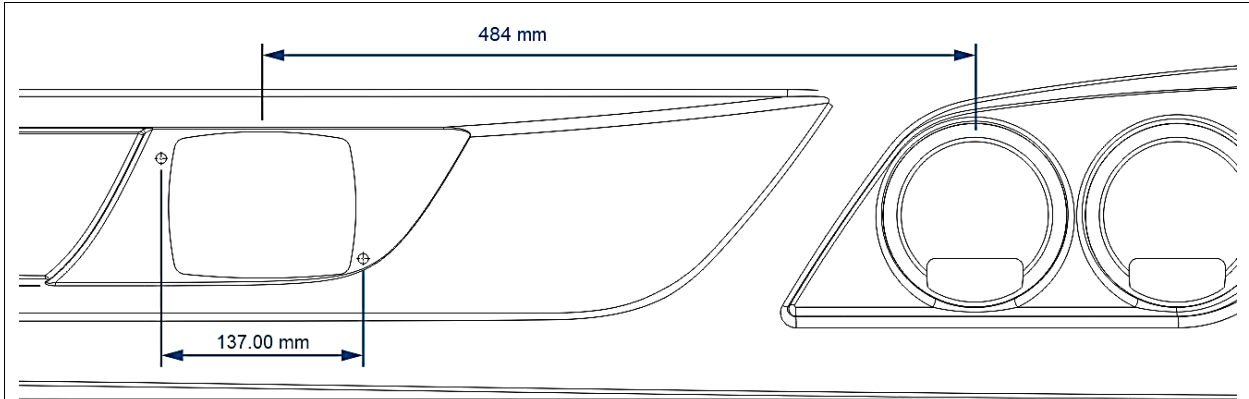
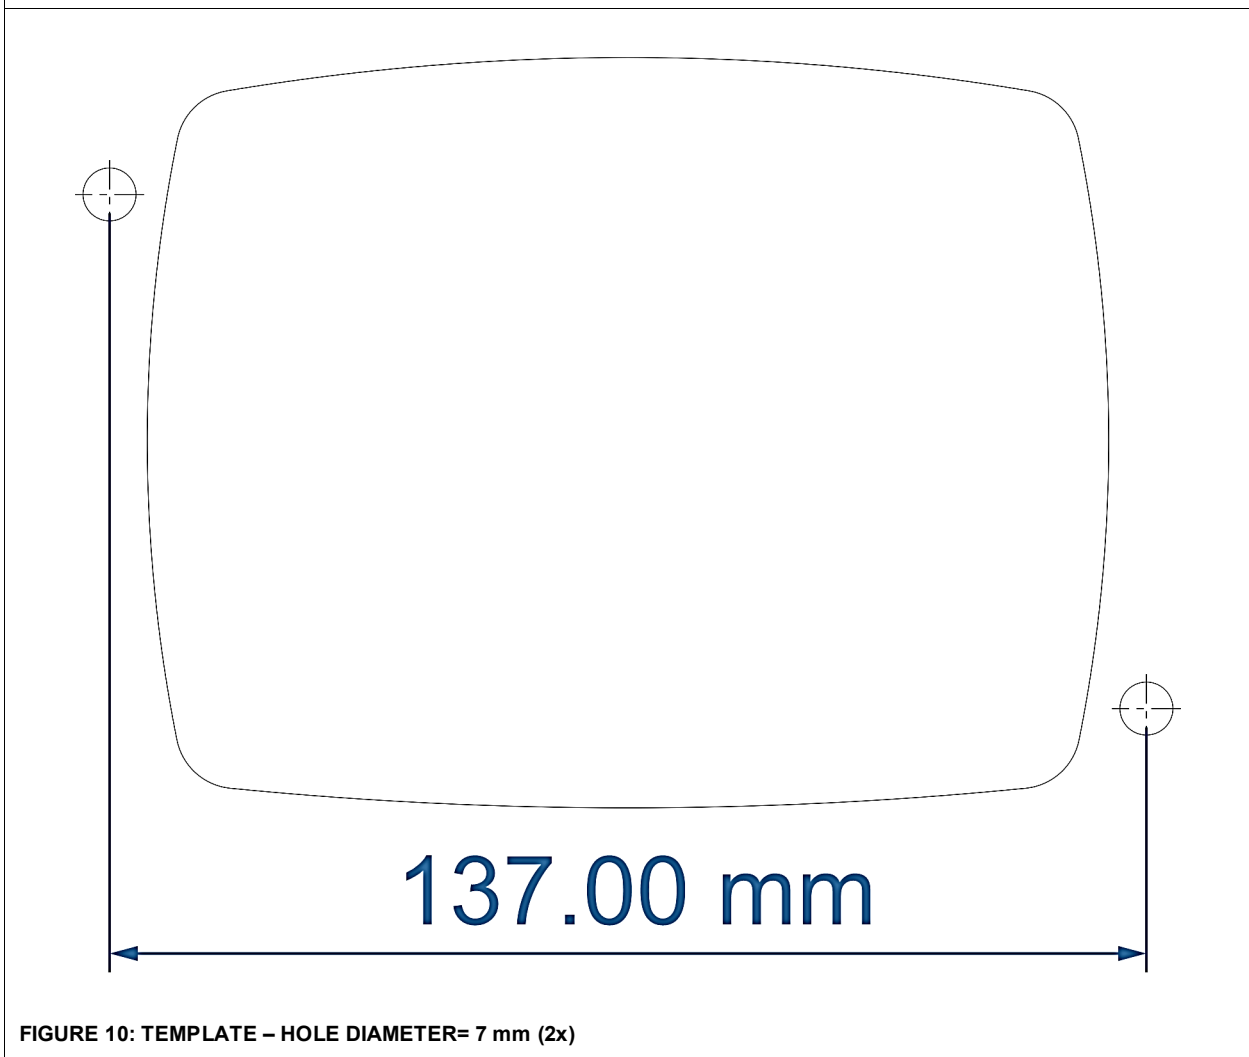

FIGURE 9: FRONT BUMPER
FIGURE 10: TEMPLATE – HOLE DIAMETER= 7 mm (2x)
11. Using the template (Figure 10), cut the bumper skin as shown on Figure 9.
NOTE: Print the template (Figure 10) on a sheet of paper. Set the printing size (%) so that the measurement center to center between the holes respects 137 mm when measuring with a ruler on the printing.